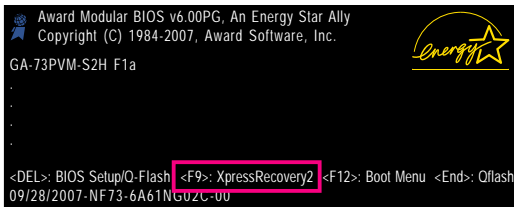

Figure 9
2. After you use the backup function in Xpress Recovery2 for the first time, Xpress Recovery2 will stay permanent in your hard drive. If you wish to enter Xpress Recovery2 later, simply press <F9> during the POST (Figure 9).